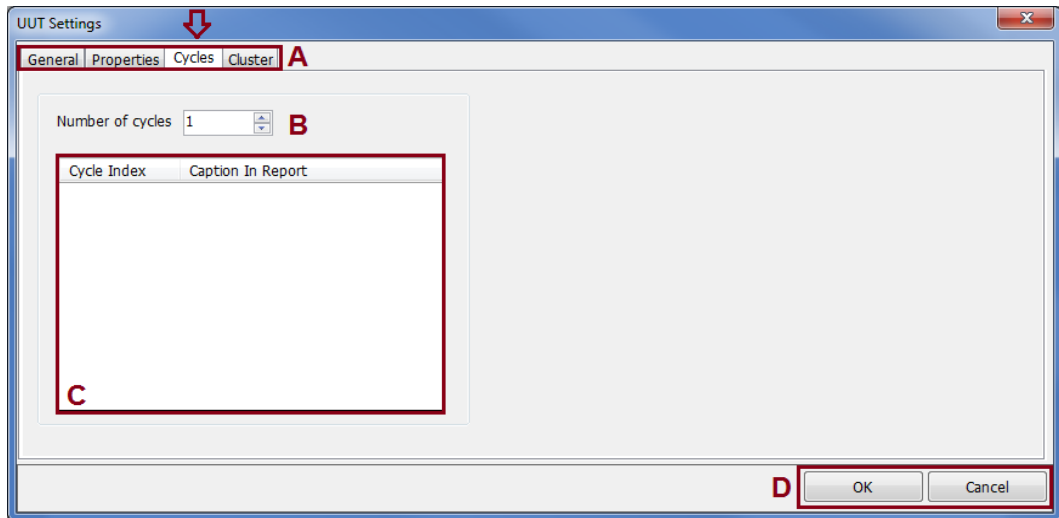

Fig 5-4 UUT Settings window – Cycles tab
Description	Fig 5-4
- Specify the number of cycles Fig 5-4 \(B\):
- Click **OK** to save the changes or **Cancel** to discard them Fig 5-4 \(D\).
- Reduce the number of cycles Fig 5-4 (B)
- Click **OK** to save the changes or **Cancel** to discard them Fig 5-4 (D).